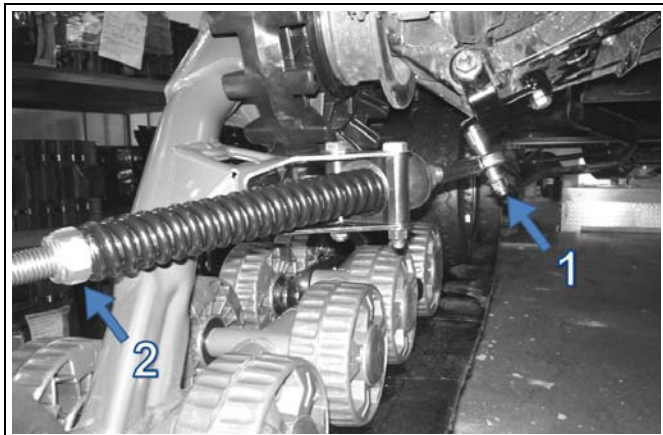

Figure 10
- Attach the stabilizing rod (1) to anti-rotation bracket installed on the suspension a-arm. (See Figure 10).
- Loosen the nut (2) compressing the spring of the stabilizing rod. The nut does not apply pressure on the spring (refer to Figure 10).